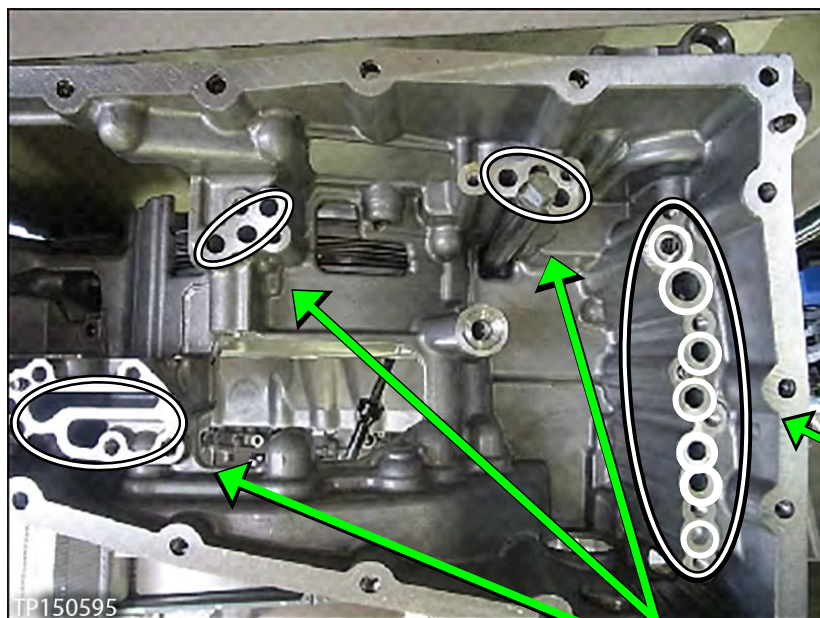
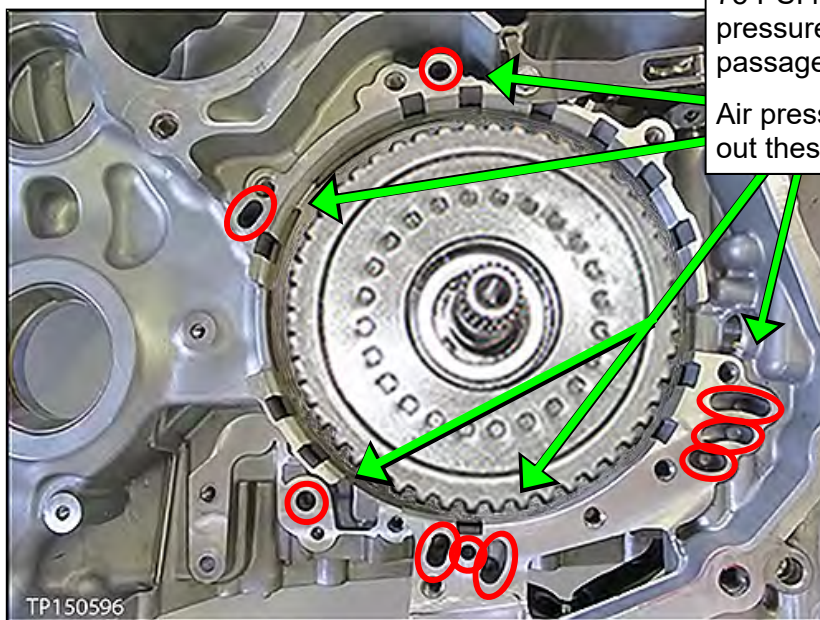

Figure 57
Figure 58
38. Spray brake clean in all oil passages of the CVT case where shown in Figure 57 and Figure 58.